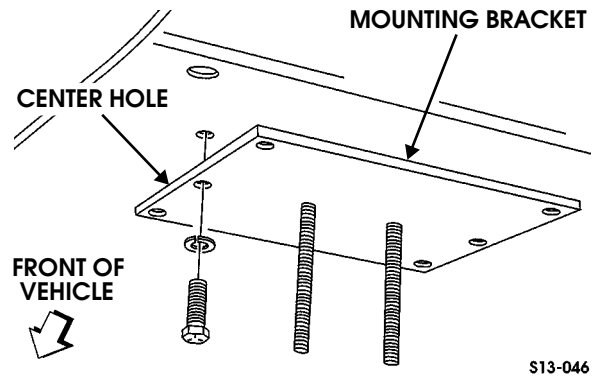

Figure 13-52: Rear Mounting Bracket
- Remove two bolts, lockwashers, and rear mounting bracket from underbody skid panel and body (Figure 13-52).
- Install rear mounting bracket on underbody skid panel and body with two lockwashers and bolts. Tighten bolts to 29-31 lb-ft (39-42 N•m) (Figure 13-52).